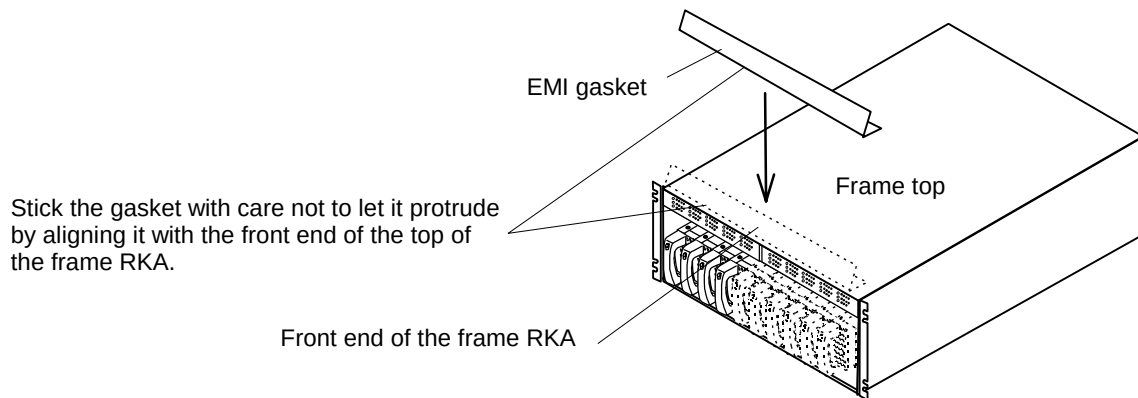

Figure 7.8.13 Position for Sticking EMI Gasket
- (a) Make sure of the orientation of the open end of the EMI gasket. (Refer to Figure 7.8.13.)